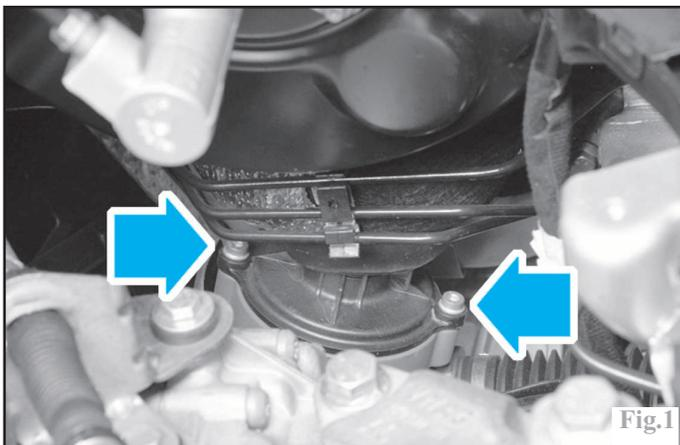

Fig.1
- "génération 2" : 2 vis (Fig.1).